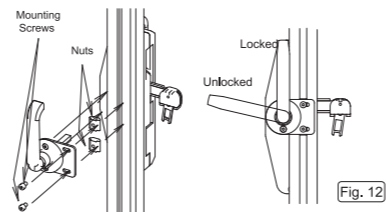

Fig. 12
- Turn the handle to the locked position, and insert the back handle shaft into the actuator cover (Fig.12). The back handle should be in the locked position.